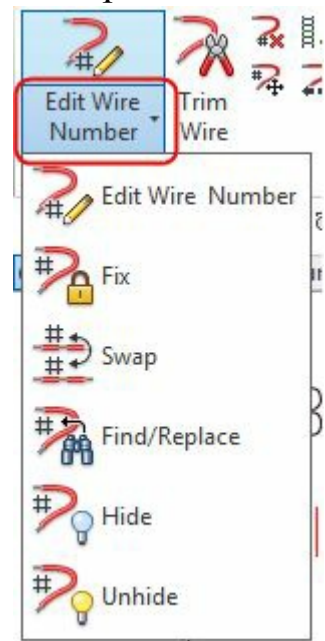

Figure-50. Edit Wire Number drop-down
- Click on the down arrow below **Edit Wire Number** button in the **Ribbon**. The **Edit Wire Number** drop-down will be displayed; refer to Figure-50.